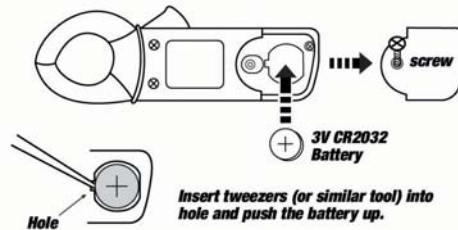

Figure 4
NOTE: A small screwdriver or pair of tweezers may be helpful in removing the depleted battery. See Figure 4"
5. Replace the Battery Cover and screw. Refer to Figure 4.